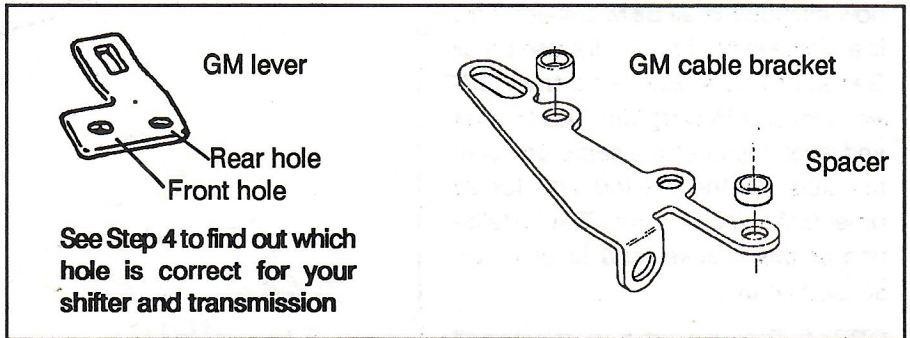

Figure 3
STEP 3. There are two holes in the supplied transmission selector lever. The front hole is used for all four speed automatic transmissions. With a three speed automatic transmission the front hole in the lever is used with Pro Stick, Street Stick and Unimatic shifters. All other shifters use the rear hole in the transmission lever. (See figure 3.)